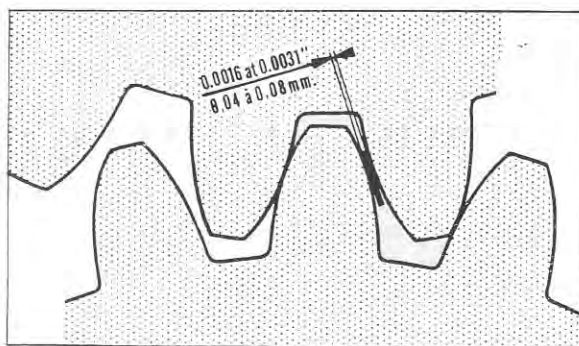

Fig. 15
- 3) Check the clearance between the gears (Fig. 15 and 16).
- 4) Check the clearance of the gear (Fig. 15 and 16).
- 3) Check the clearance of the gears (Fig. 15 and 16).